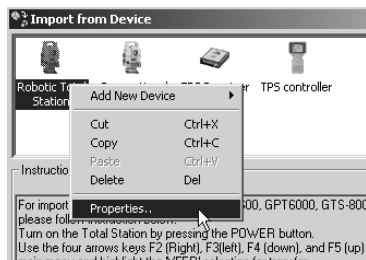

Figure 2-20. Right-Click Total Station
1. On the **Import from Device** dialog box, right-click a Conventional/Robotic Total Station icon and click **Properties** on the pop-up menu (Figure 2-20).